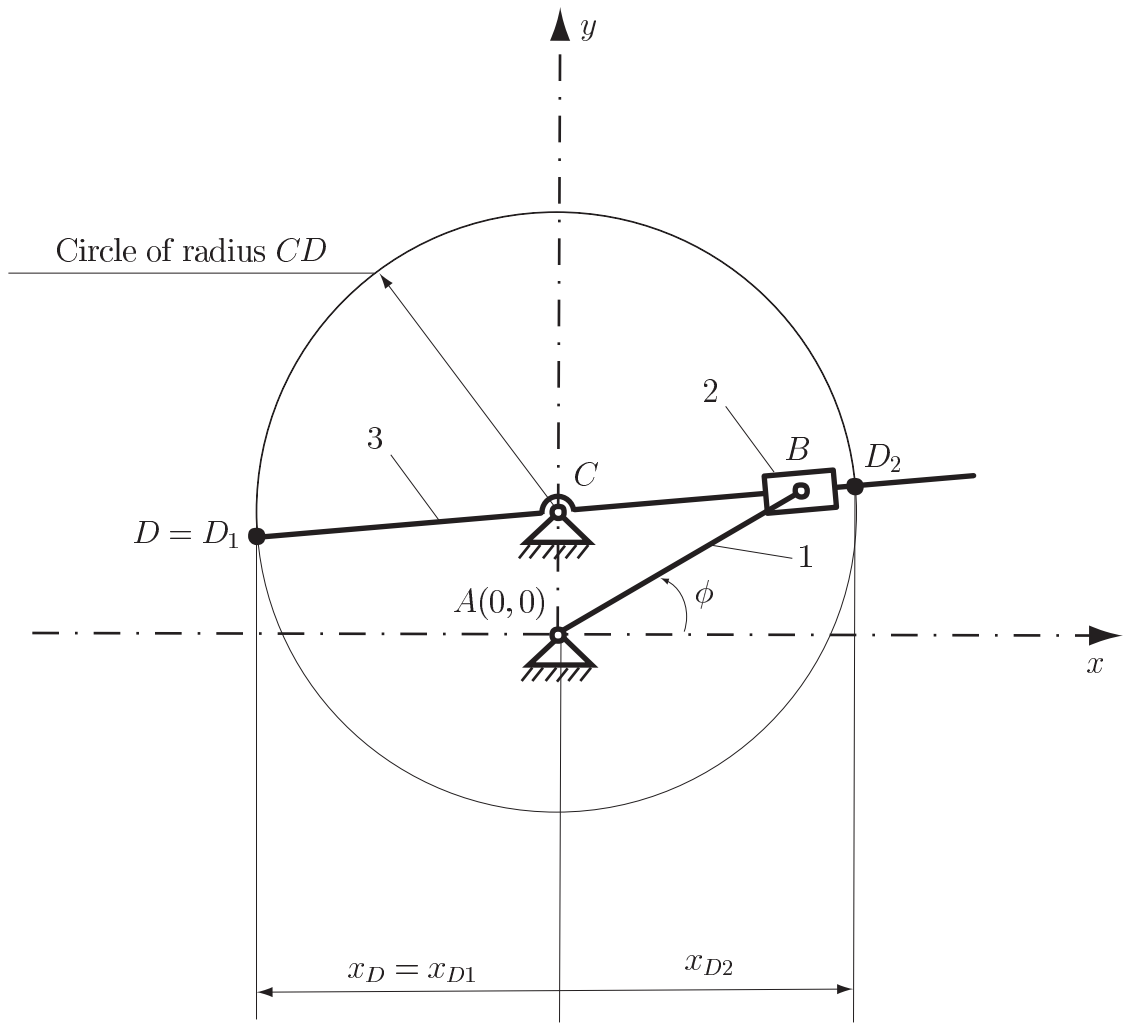
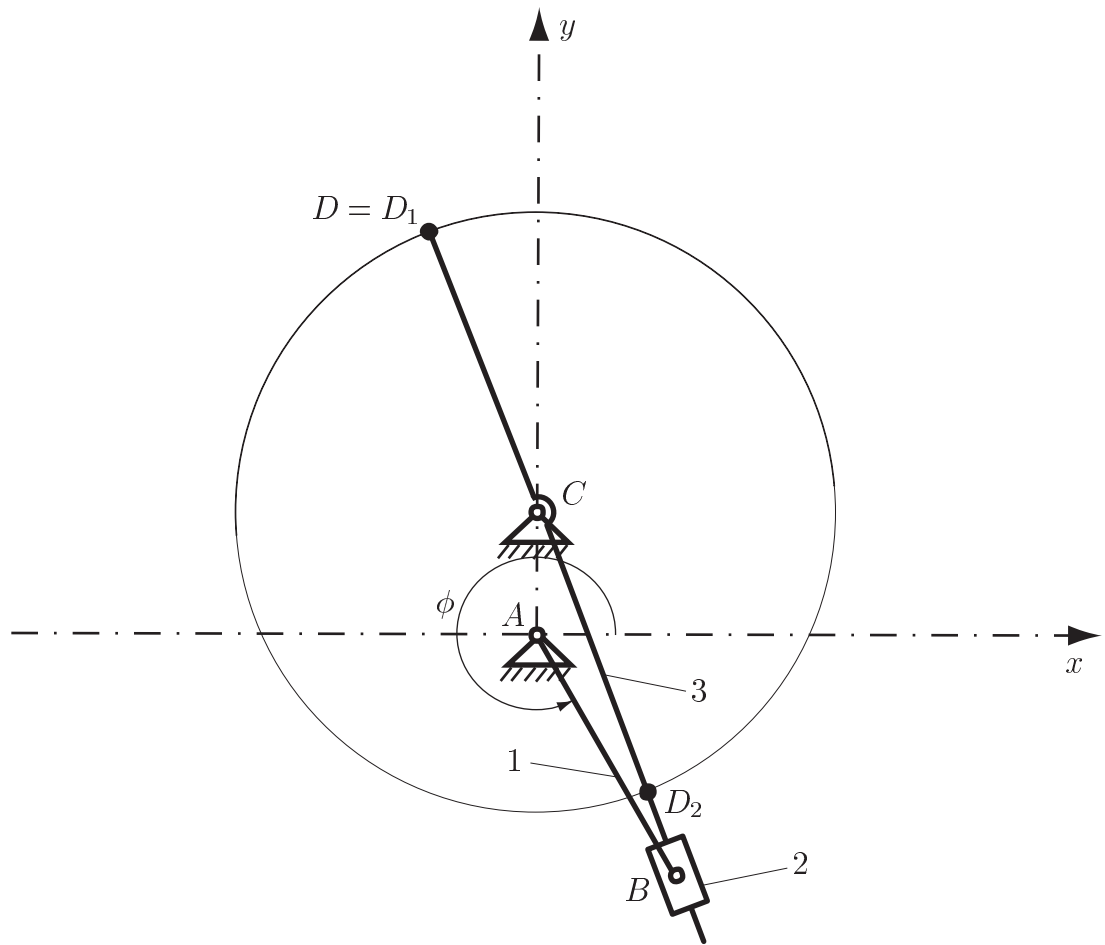

Fig. 2
Fig. 5
The Eqs. (5) and (6) form a system from which the coordinates of the joint D can be computed. To solve the system of equations, a specific MATLAB/*Mathematica*TM command will be used. Two sets of solutions are found for the position of the joint D . These solutions are located at the intersection of the line BC with the circle centered in C and radius CD (Fig. 2), and they have the following numerical values:
For the angle ϕ located in the first quadrant $0^\circ \leq \phi \leq 90^\circ$ (Fig. 2), and the fourth quadrant $270^\circ \leq \phi \leq 360^\circ$ (Fig. 5), the following relation exists between x_D and x_C :